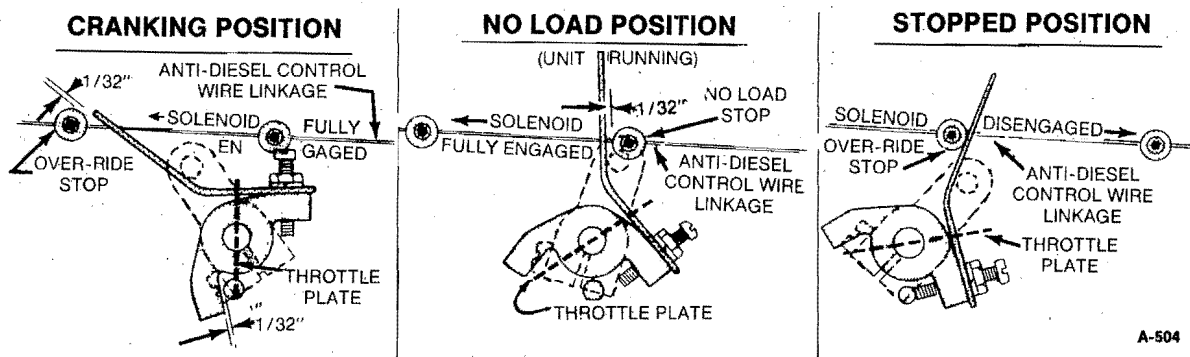

FIGURE 20. THROTTLE STOP
8. **Throttle stop** — With the engine stopped, see that the throttle stop lever (attaching the override lever, Figure 20) engages the carburetor throttle stop pin by $1/4$ to $1/2$ turn. This can be done by backing off the screw until it just clears the stop pin, then turning in $1/4$ to $1/2$ turn. This provides a "cracked open" throttle for good starting characteristics. Do not adjust the screw so far as to cause the engine to "diesel" and refuse to stop, thus defeating the purpose of the anti-dieseling control.